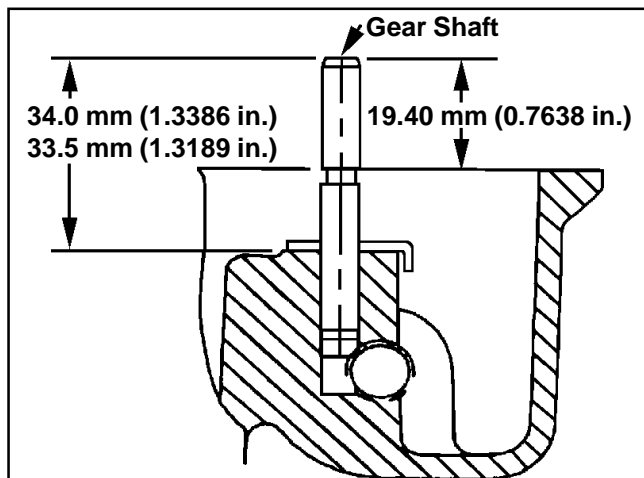

Figure 10-14. Governor Shaft Press Depth.
3. Carefully inspect the governor gear shaft and replace it only if it is damaged. After removing the damaged shaft, press or lightly tap the replacement shaft into the closure plate to the depth shown in Figure 10-14.